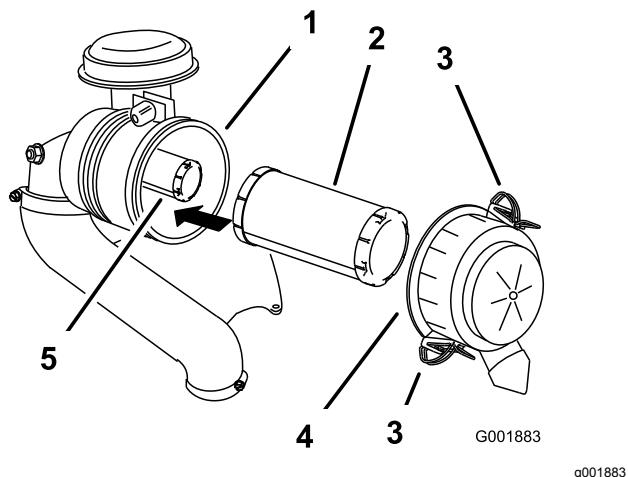

Figure 46
3. Release the latches on the air cleaner and pull the air-cleaner cover off the air-cleaner body (Figure 46).
5. Gently slide the primary filter out of the air-cleaner body (Figure 46).
2. If you are replacing the inner filter, carefully slide it into the filter body (Figure 46).
3. Carefully slide the primary filter over the safety filter (Figure 46).
4. Install the air-cleaner cover and secure the latches (Figure 46).